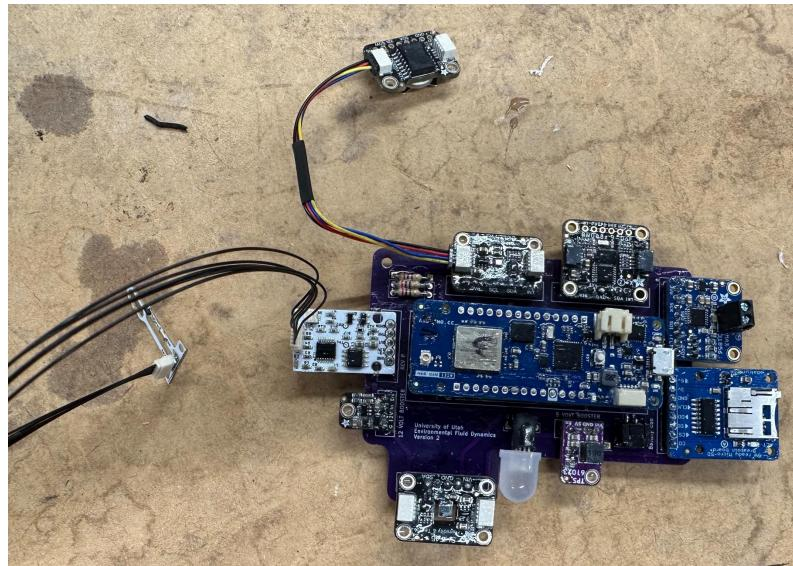

Figure A1: Final printed circuit board assembly
- The PCB is designed to have the devices soldered hanging off of it. To ensure the proper orientation of all devices, refer to Figure A1 for the complete PCB design. The BNO085 must be oriented with the I2C pins soldered to the PCB (Vin,3Vo,GND,SDA,SCL)
- Refer to Figure A1 for proper placement of the SHT45 device.
- To reduce the device's form factor, the top row of female headers on the Arduino MKR Wan 1310 is removed. To do so, use a pair of pliers to pull the female headers off the protruding pins on the top of the Arduino. Use wire snips to trim the pins on the top of the Arduino, as seen in Figure A1.